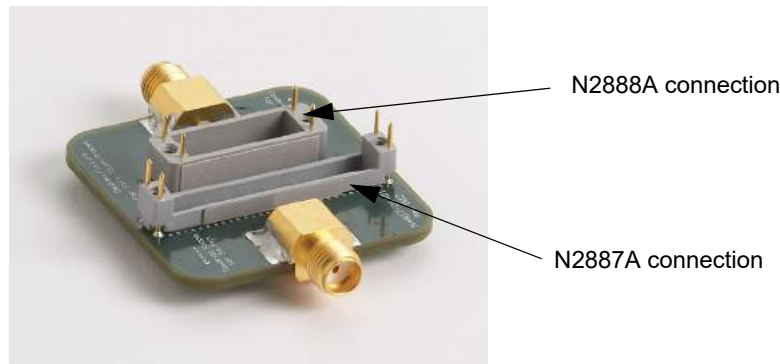

Figure 114 Deskew Fixture with N2887/8A Connections
- 4 Connect either the N2887A or N2888A probe head to the deskew fixture as shown in the **Figure 114** on the following page (note: use the appropriate connector for either the N2887A or N2888A model as shown on the following page).